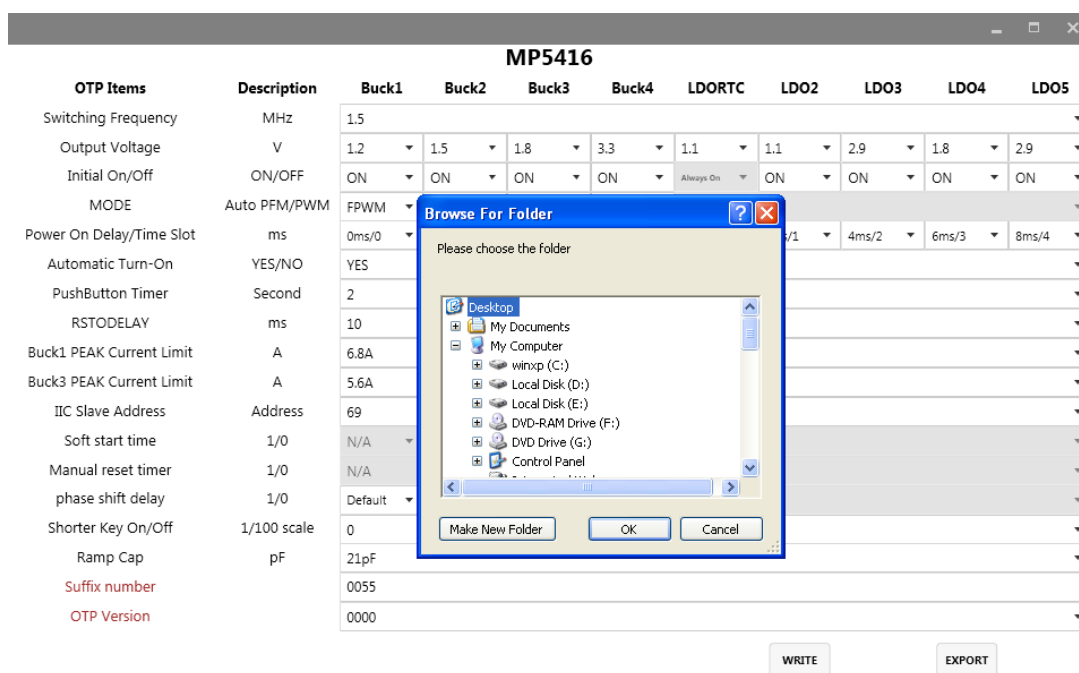

Figure 15: Various Locations Available to Export To
8. Export the configuration by clicking EXPORT. Find a location for the exported file and click "OK". Your configurations will be saved in a text file (see Figure 15).